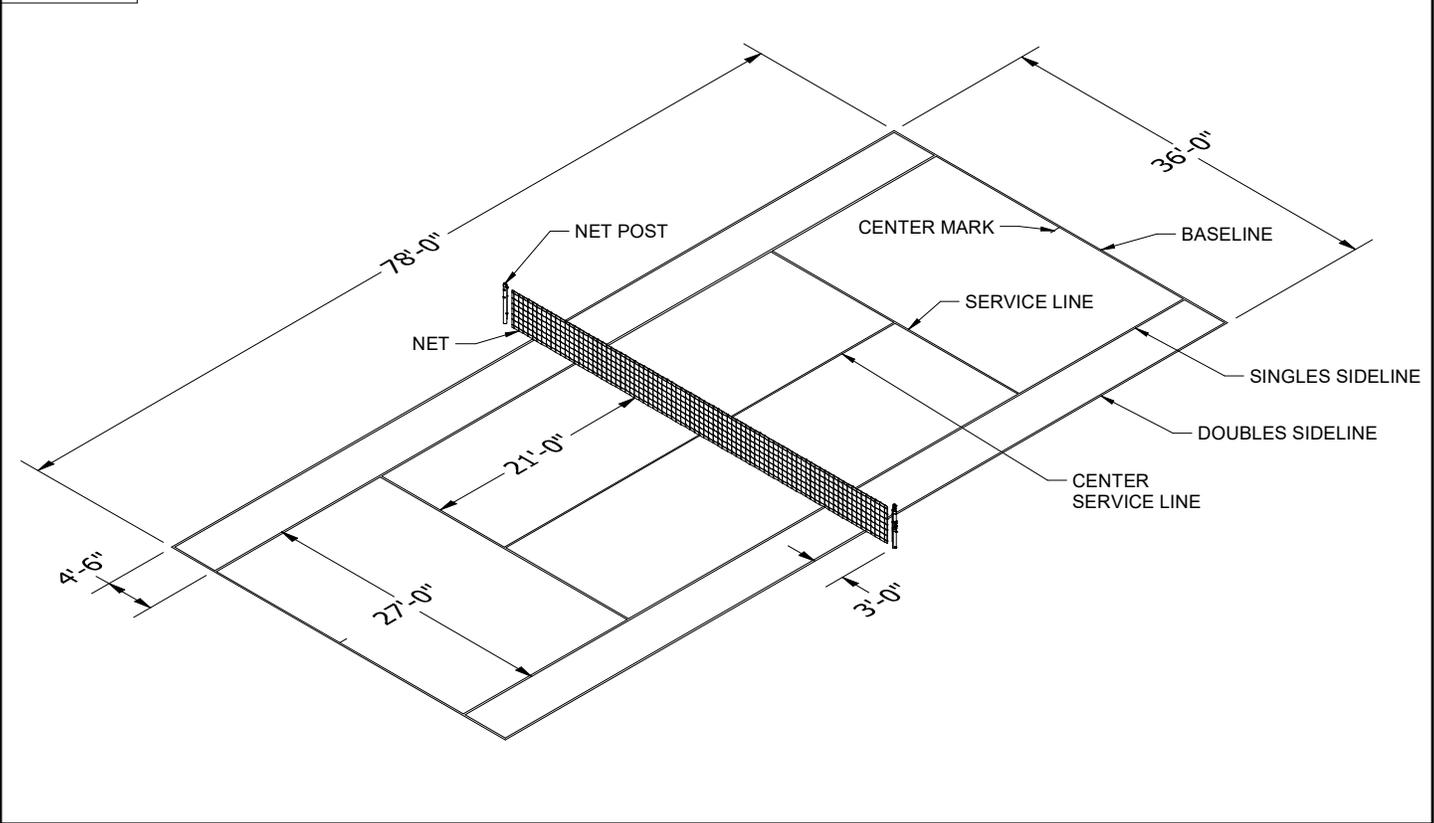

Figure 8
3. See Figure 8 Pickleball Court Diagram for proper Pickleball court line markings.